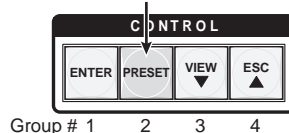

Figure 3-34 — Select an I/O group
5. Press and release the Preset button to select group 2 (figure 3-34).